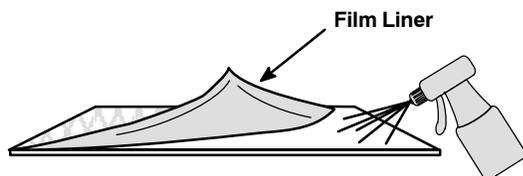

Figure 1. Lift Corner; Spray Solution
5. Lift one corner of the liner while spraying the solution onto the exposed adhesive. See Figure 1.